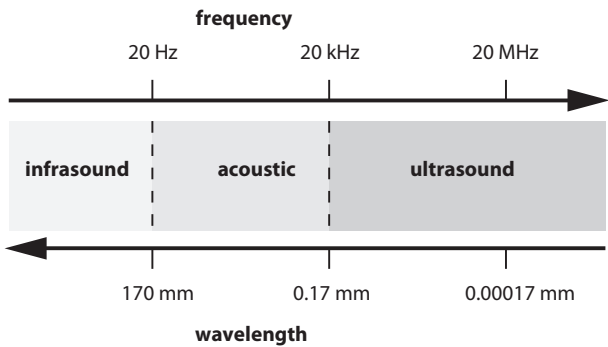

Figure 5.4. Sound wave spectrum (note that the scale is logarithmic).
- **infrasonic** waves with frequencies below the audible range (as seen in *Figure 5.4*)